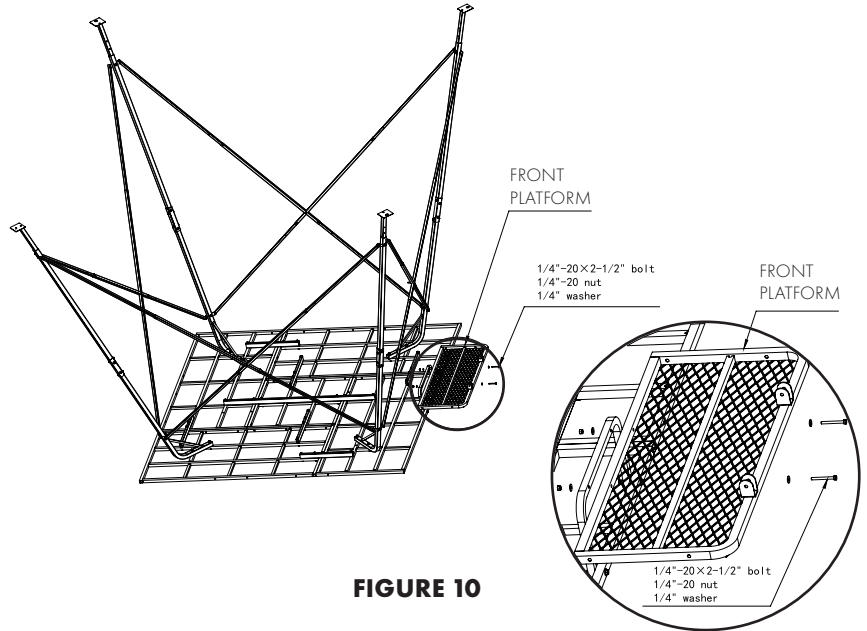

FIGURE 10
Attach the **FRONT PLATFORM (#13)** to the **FRONT PLATFORM CONNECTING ROD (#12)** by using (2) 1/4"-20 x 2-1/2" bolts, (2) 1/4" lock nuts and (4) 1/4" flat washers (Figure 10). **Be sure to not over tighten.** Prepare to flip stand.